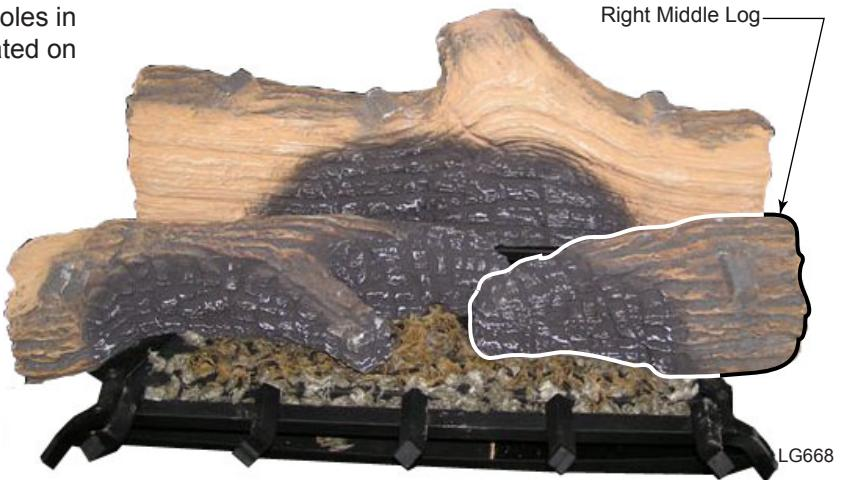

Figure 61 -
4. Place the right middle log by aligning the holes in the bottom of the log with the two pins located on the right side of the burner. *Figure 61*